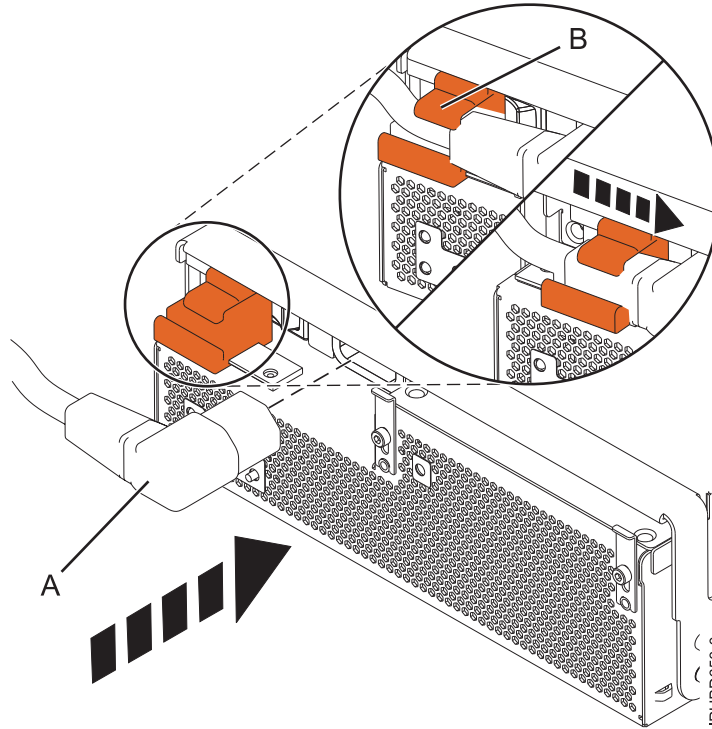

Figure 64. Connecting the power cable to the front of an expansion unit
8. Reconnect the power cable (**A**) to the front of the power supply, and then slide the cable retention bracket (**B**) to the closed position to secure the cable as shown in Figure 64 on page 77. By moving the bracket to the closed position, you turn on the power supply.